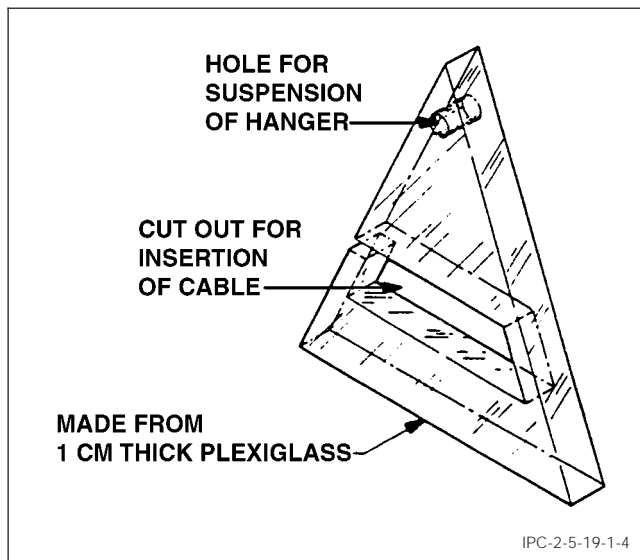

Figure 2 Sample Hanging Device
4.4 Fixture of plexiglass or other nonmetallic material. Cable hangers to suspend the cable in air (see Figure 2)